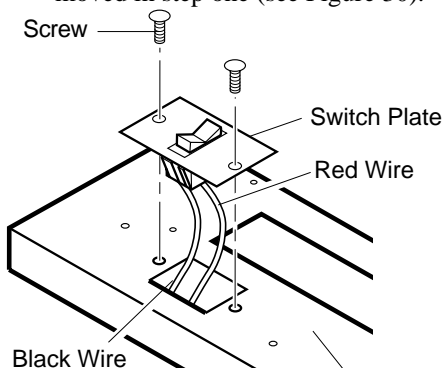

Figure 28 - Switch Plate and Wiring Harness
3. Remove switch plate (see Figure 28). Discard switch plate after removing. Save the screws.